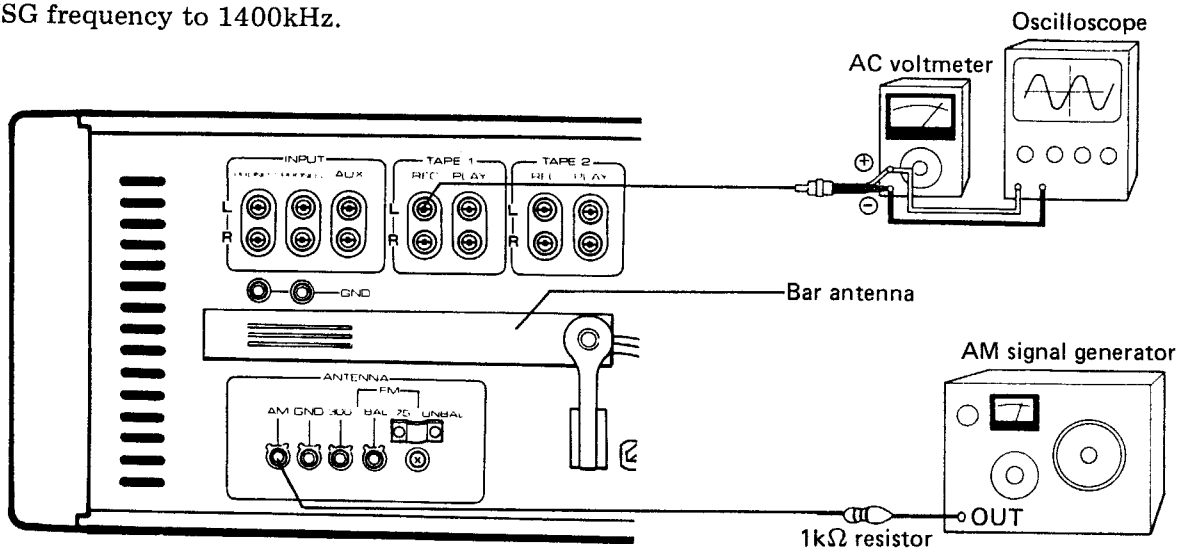

Fig. 21
1. Connect the AM signal generator (AMSG) to the AM ANTENNA terminal via a 1kΩ resistor (Fig. 21).